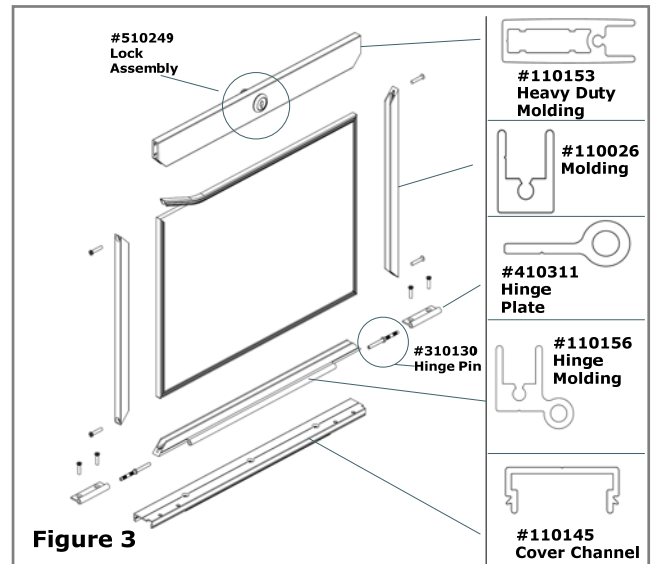

Figure 3
4. Position glazing tape on all four sides of the ¼" panel. Tap door molding into place with rubber mallet. After glazing, secure frame with #6 screws (part #212017). **See Figure 3.**
5. Place the knurled ends of the hinge pins into the hinge plates. Place hinge pin with plate into the extruded door molding located at the bottom of door. Place hinge molding located at bottom of door. Place hinge molding into door opening. Fasten door assembly with hinge plates to bottom cover channel with screws (part #212040). **See Figure 3.**